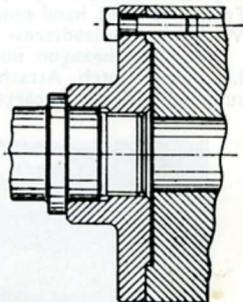

Fig. 12
(1) Before screwing backplate on to spindle nose, ensure the cleanliness of spindle nose, backplate register, faces and thread.
(2) Screw backplate firmly on spindle nose.
(3) Machine register diameter to light tap fit in chuck body.
**Note**—With three-jaw gear scroll chucks, contact is made with the outer face of the chuck body and clearance with the inner face, see Fig. 12.